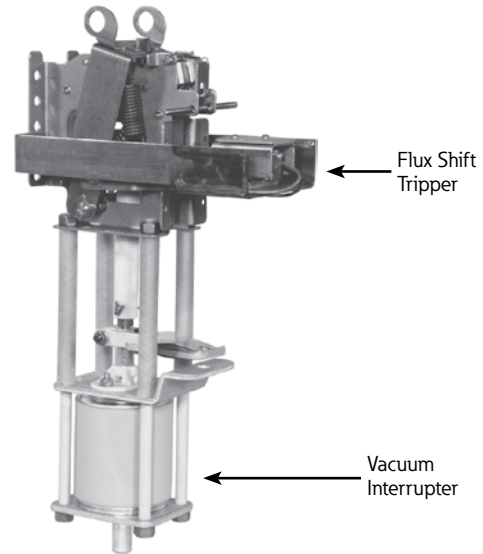

Figure 19. Vacuum interrupter assembly
The VFI operating handles (Figure 4 and Figure 19) are located on the tap-side front plate of the PST Model-9 unit. The VFI operating handles must be operated with a hotstick.
5. Pull the spring charging operator handle approximately 30 times or until the spring charging indicator switches from the white, "spring discharged," to the yellow, "springs charged," position. See **Figure 19**.